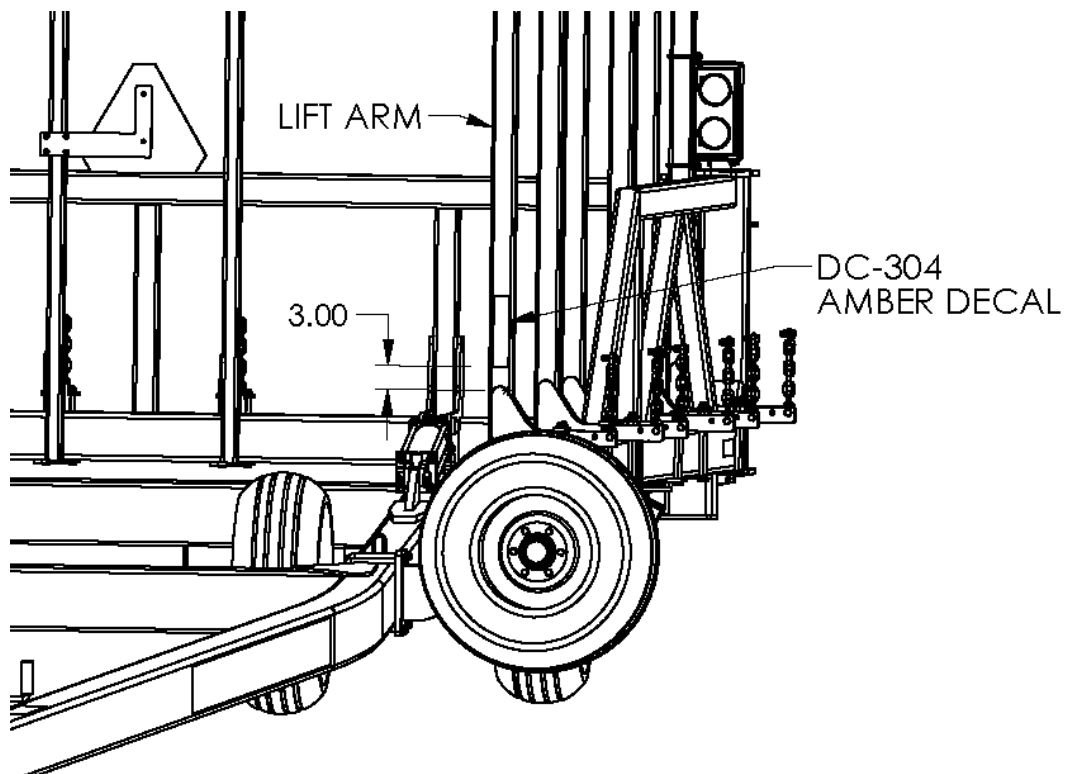

Figure 30
3. Apply the amber retroreflective (DC-304) decals to both of the forward most lift arms, so that they are visible from the front as shown in Figure 30.